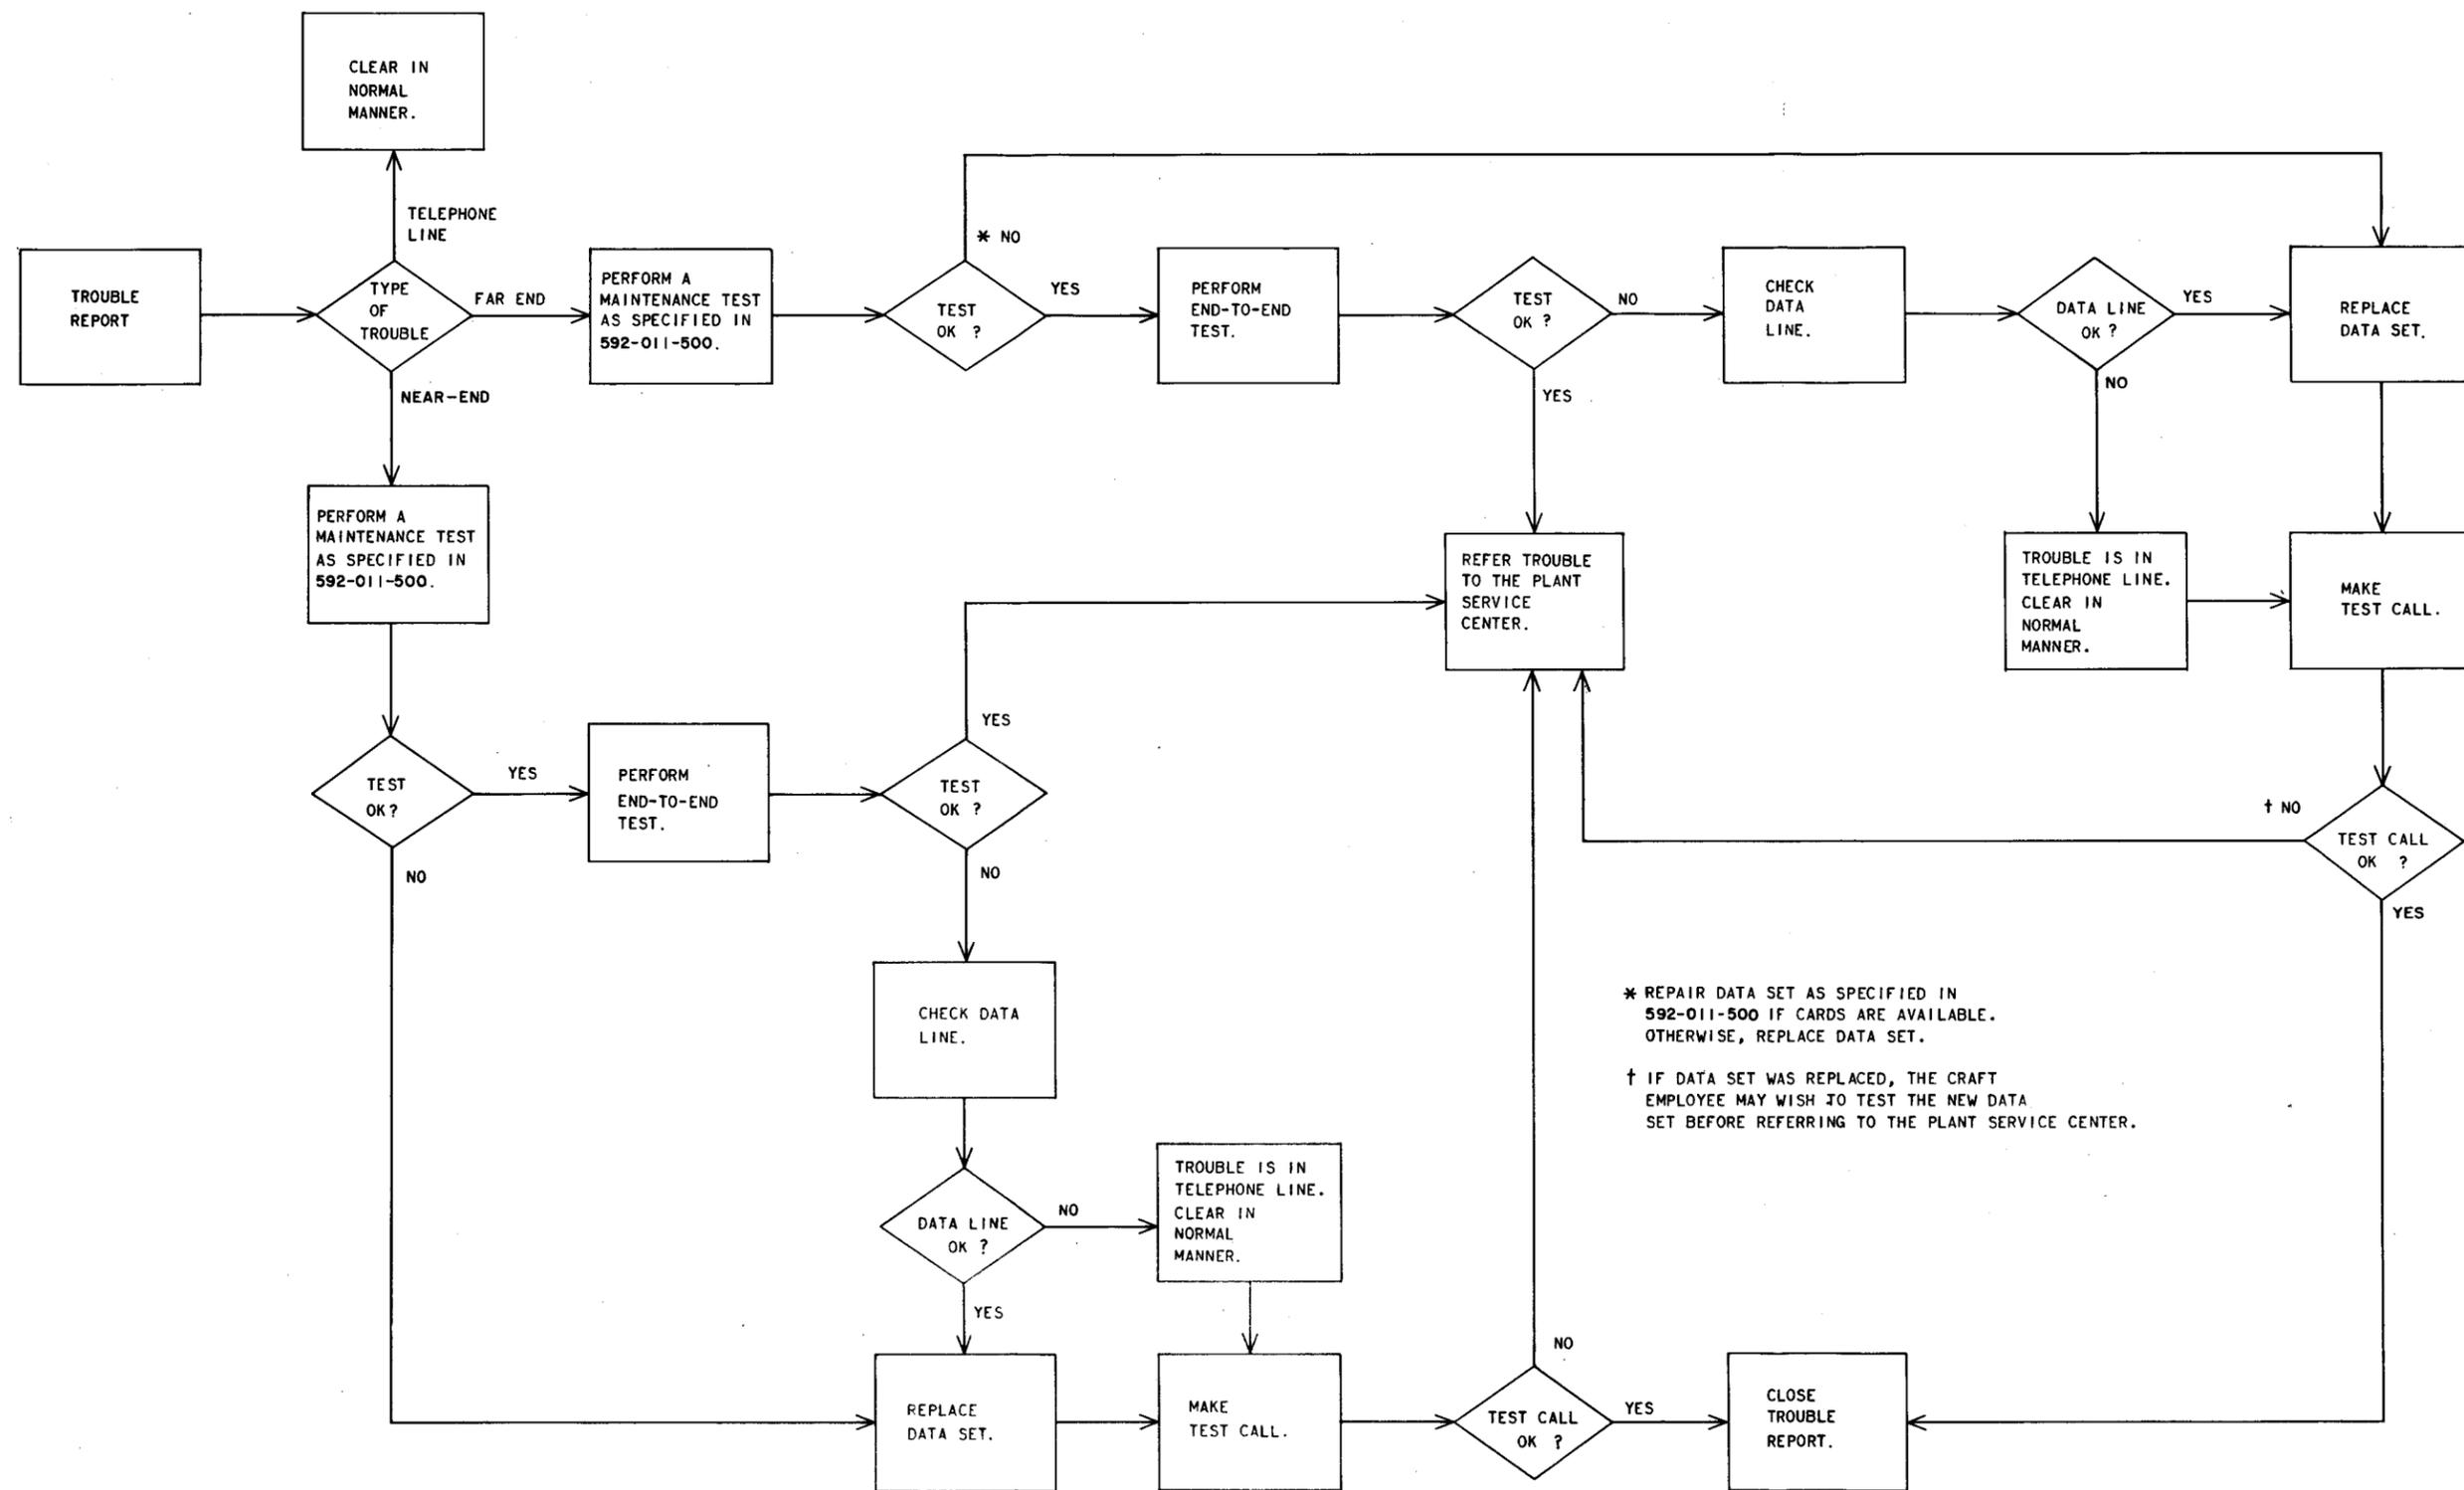

Fig. 1—Trouble Reporting and Investigating
2.01 When investigating a trouble report, proceed as outlined in Fig. 1. For information on testing Data Set 201-type, refer to the section entitled Data Sets 201A1, A2 and 201B1, B2, Transmitter-Receiver, Test Procedures (592-011-500). If the 914B Data Test Set (DTS) is used, it will be necessary to first perform the installation test in order to obtain the information required for finding and replacing the defective cards in the data set. If new cards are not available to replace any defective cards, the data set must be replaced. When replacing a data set, the new data set must have the same option strapping as the data set being replaced.